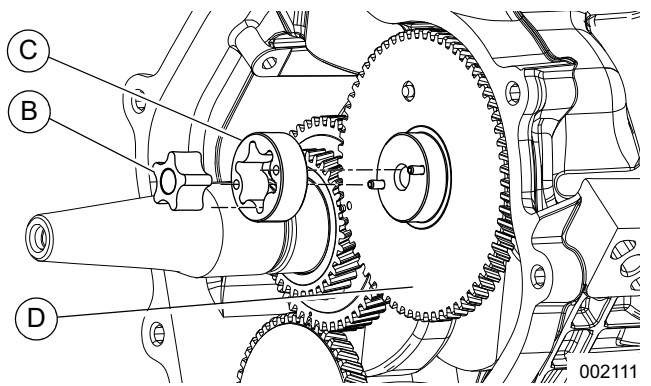

Figure 9-10. Location of Oil Pump Drive Pins
- 8. See Figure 9-10. Apply a small amount of general purpose grease to the oil pump inner rotor (B). Grease will help prevent rotor from dropping out when the crankcase cover is inverted for installation.
- 10. See Figure 9-10. Install oil pump outer rotor (C) on two drive pins on the camshaft gear (D).